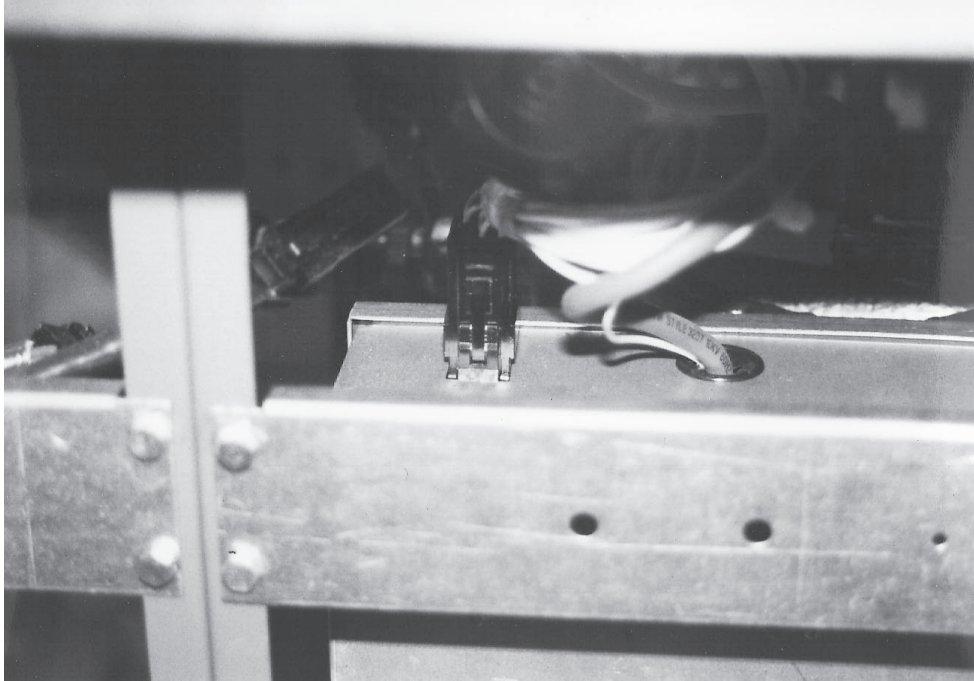

Fig. 47
2. Disconnect the supply box wire harness (Fig. 47)